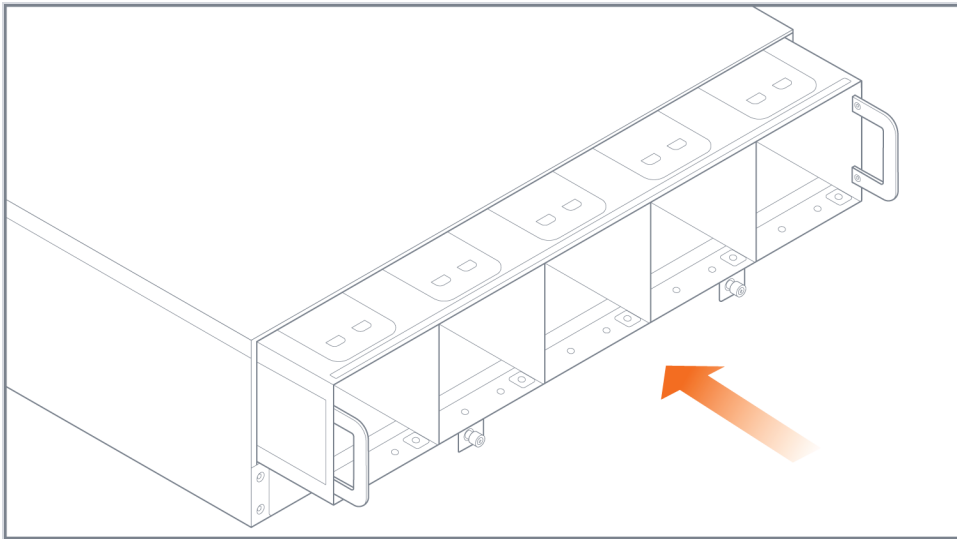

Figure 12: Fan Tray Insertion
2. Place the empty fan tray into the slot and slide it in. Refer to Figure 12: Fan Tray Insertion on page 81.